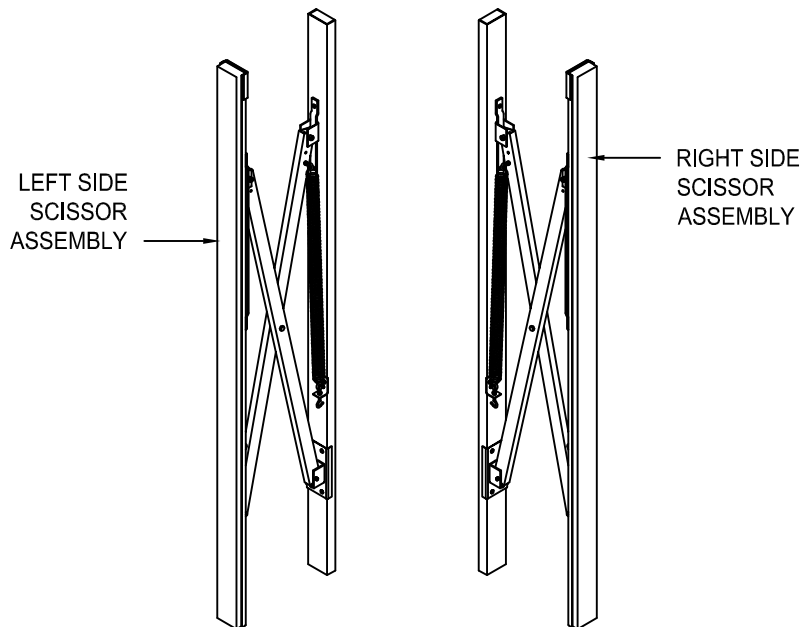

FIG. 2
- Measure and mark center** of dock door opening (Figure 2).
3. Determine left and right vertical frames: The vertical frame should be mounted in a manner which allows the spring assembly to be positioned at the top inside edge "Close to the door opening" (fig. 2).